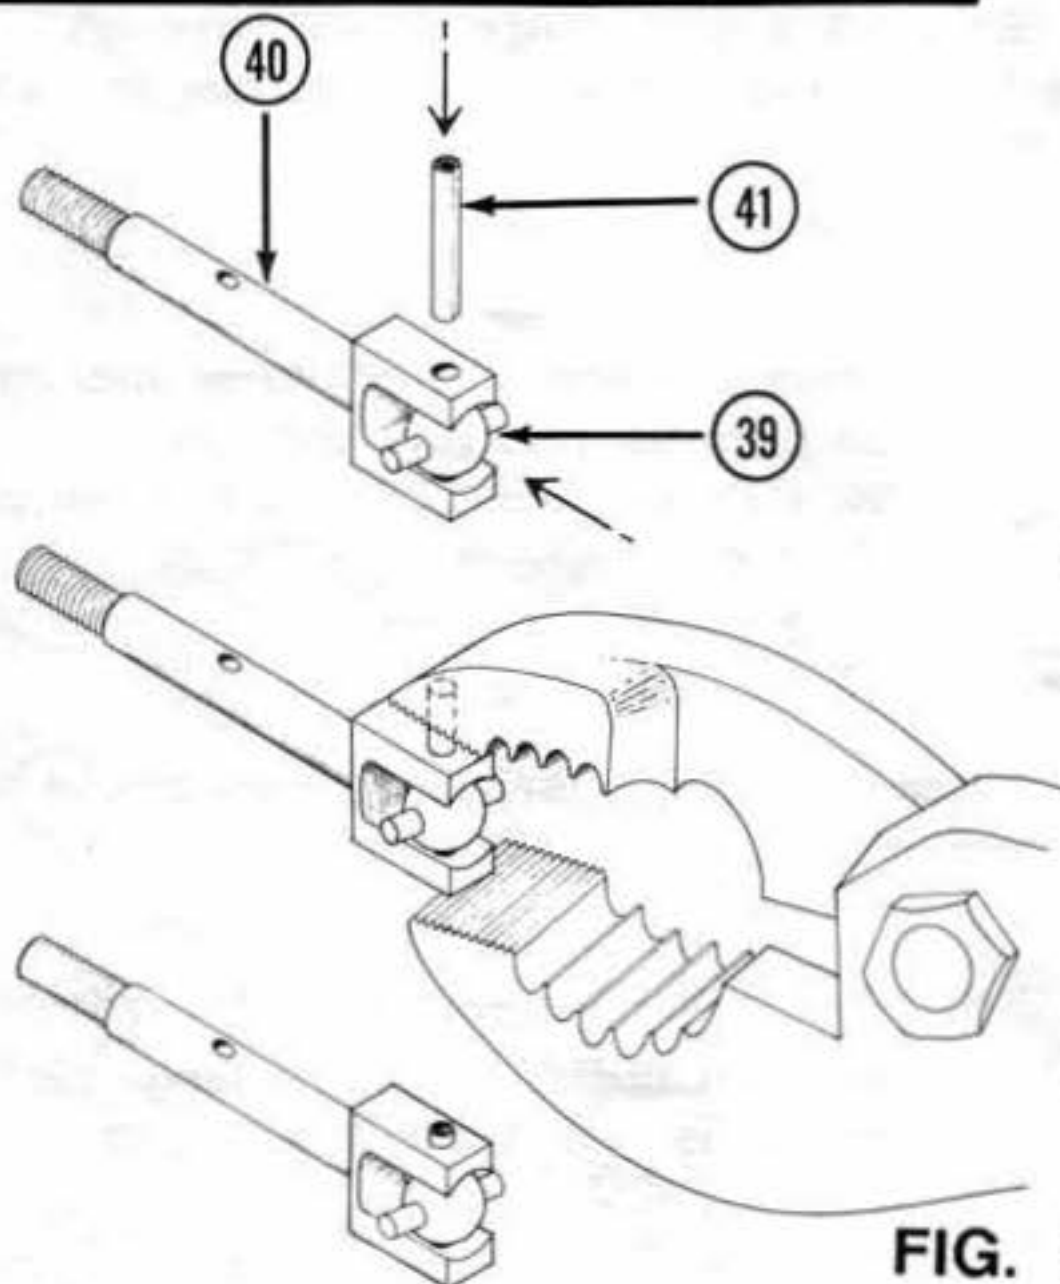

FIG. 20
11. Place universal pivot (39) in rear axle (40) so that cross pin hole is aligned vertically. Fig.20
12. Using pliers, push 3/32 dia. pin (41) through axle (40) and universal pivot (39) until pin extends out evenly on both sides of axle (40). Be sure there is no binding of universal pivot (39) inside U-joint (40). Fig.20